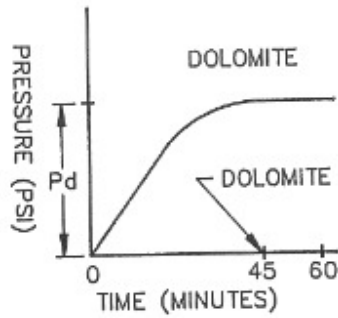
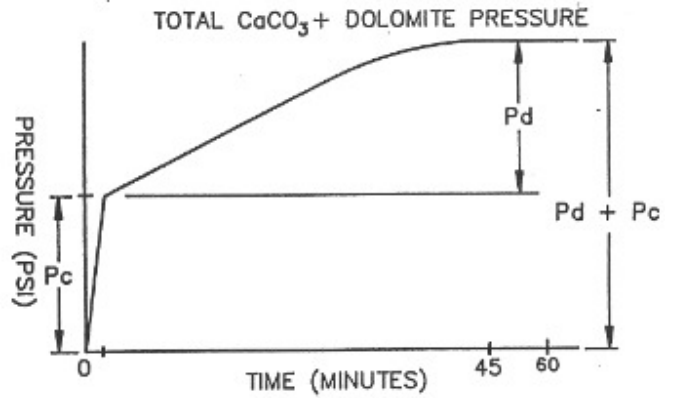

Fig. 2
Fig. 3
D. For interpretation of the pressure readings. Refer to Fig. 1, 2, and 3. These are representative of pressure versus time graphs as they would appear on a Pressure Recorder Chart. Fig. 1 is representative of the CaCO3 only. Fig. 2 is representative of dolomite only. Fig. 3 is representative of combined CaCO3 and dolomite.
E. For interpretation of the pressure readings. Refer to Fig. 1, 2, and 3. These are representative of pressure versus time graphs as they would appear on a Pressure Recorder Chart. Fig. 1 is representative of the CaCO3 only. Fig. 2 is representative of dolomite only. Fig. 3 is representative of combined CaCO3 and dolomite.